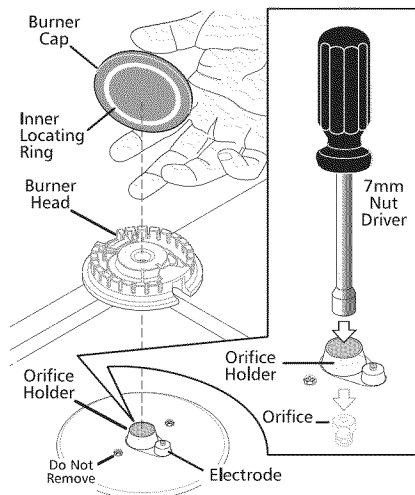

Fig. 6
- Remove the factory installed natural gas orifices from the center of the orifice holders using a 7 mm nutdriver (See Fig. 6).